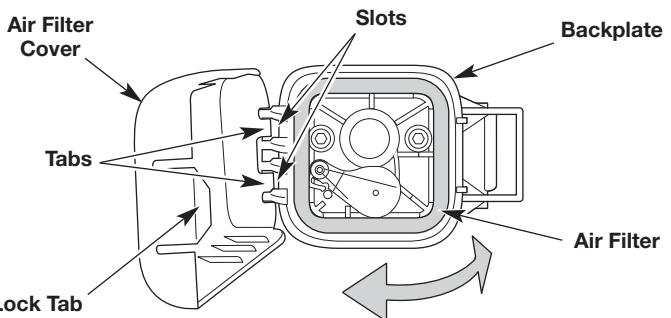

Fig. 10
- Open the air filter cover: press in the lock tab and swing the air filter cover to the left (Fig. 10).
- Remove the air filter (Fig. 10).
- Reinstall the air filter (Fig. 10).
- Close the air filter cover: insert the tabs on the air filter cover into the slots on the backplate. Swing the air filter cover to the right and press it closed until the lock tab snaps into place (Fig. 10).